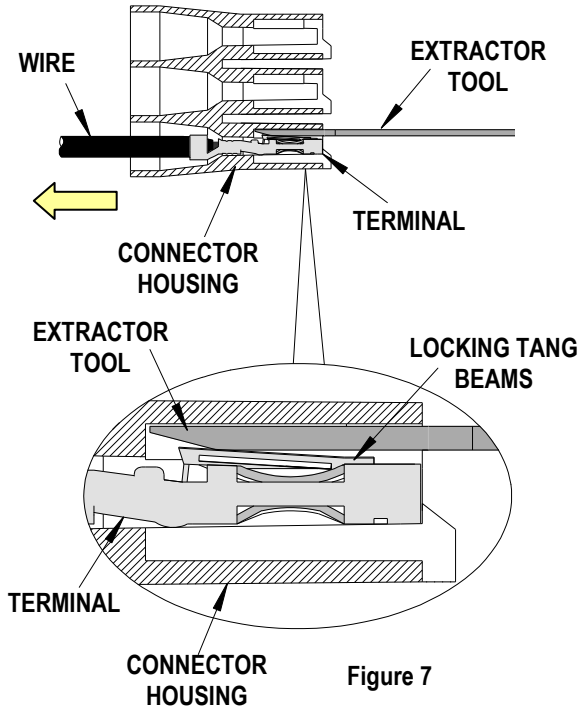

Figure 7
2. Depress the terminal locking tang beams and push the terminal back through the connector slot. Pull the terminated wire out in the arrow direction. See Figure 7.